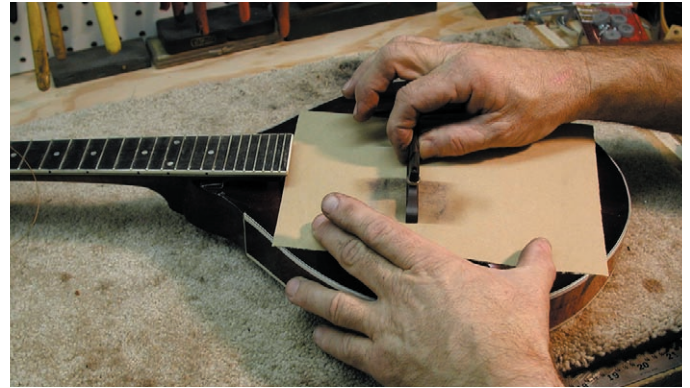

Fig. 1
6) Continue until you get two dark paths of ebony dust on the sandpaper (which indicates you have full contact from both feet onto the soundboard). (Fig. 1)